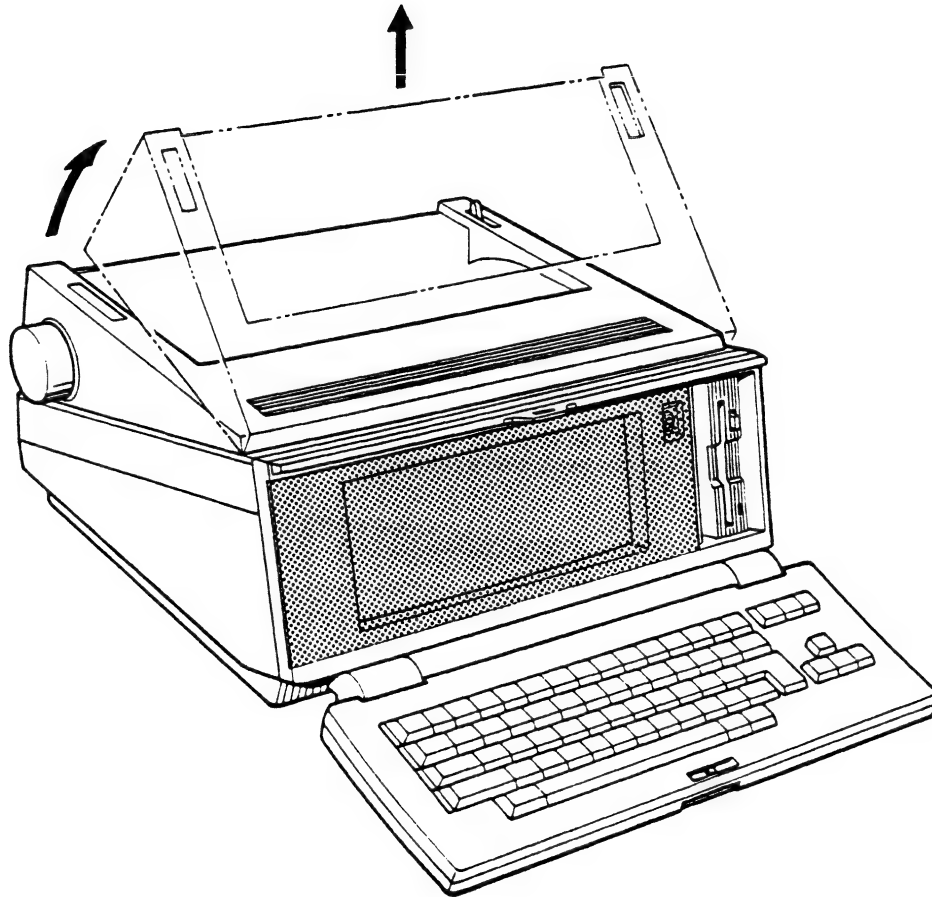

Fig. 1.2
- (3) Remove the screw securing the cover
- (4) Remove the body cover
- b) In order to disengage the three projections on the body cover front from the front panel, raise the rear body cover to the front and lift it up. (Fig. 1.2)